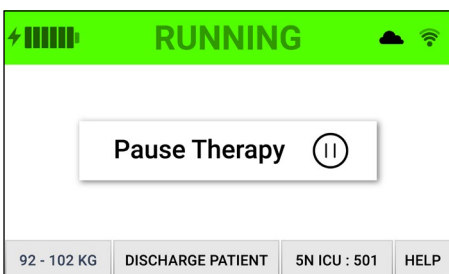
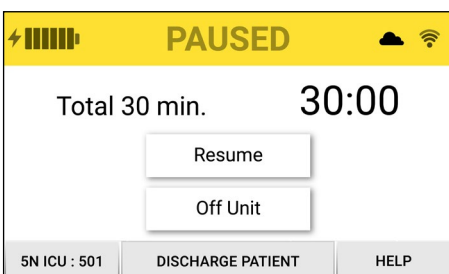

Figure 8 Running screen: procedural area use systems
Figure 9. Paused screen: general use systems
1. To stop therapy at the end of patient use, press 'Discharge Patient'; at the bottom of the running (Fig. 8) or paused screens. General (Fig. 9) or procedure. (Fig. 12)